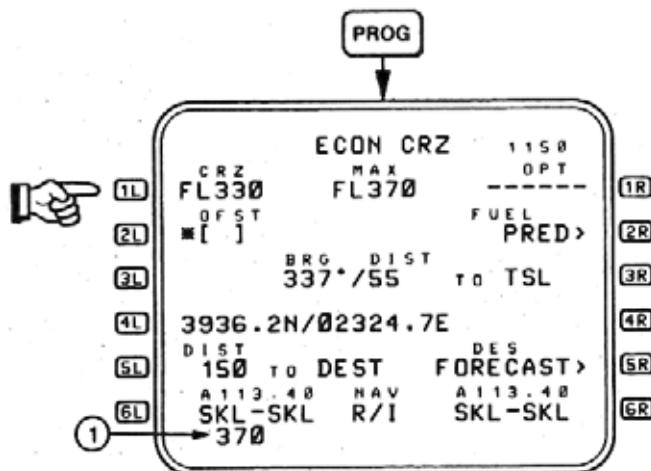

Figure 2-99
2. Manually - via the PROG page, by changing the CRZ altitude in data line (1) (see Figure 2-99). For demonstration purposes, assume level at FL330, and a climb to FL370 is desired at PPOS.
- Write 370, or FL370, in the SP (1), Figure 2-99)